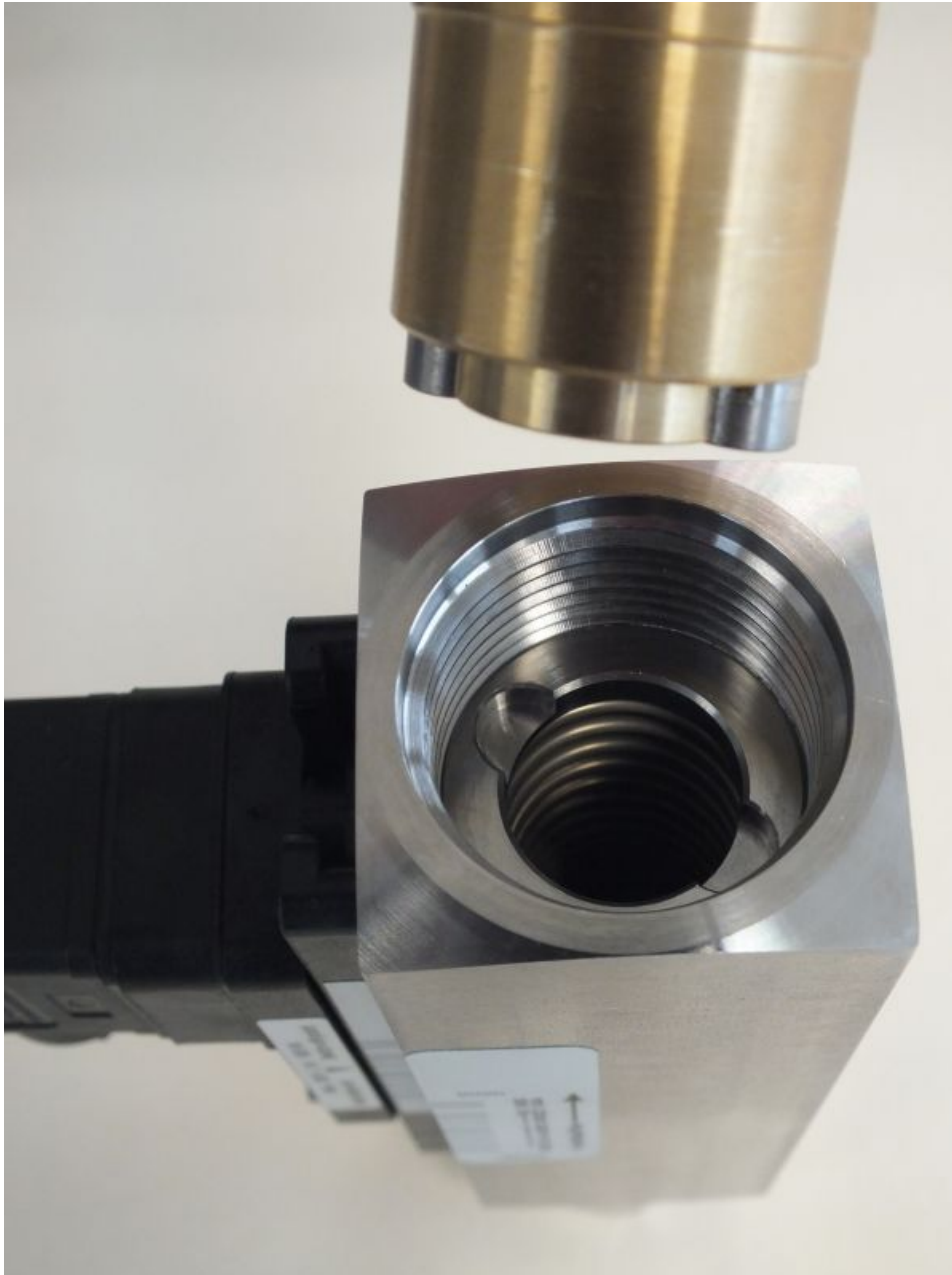

Fig. 43: Insert threaded ring insertion tool (outlet)
- 3.** ➤ Insert the threaded ring insertion tool into the device outlet (*Fig. 43*) and turn until it rests in the keyway of the threaded ring